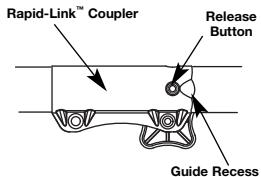

Fig. 13
WARNING: Avoid accidental starting. Make sure you are in the starting position when pulling the starter rope (Fig. 13). To avoid serious injury, the operator and unit must be in a stable position while starting. Make sure that any Add-On item is installed correctly and secure before starting the unit.
1. Turn the knob counterclockwise to loosen (Fig. 13).
2. Press and hold the release button (Fig. 13).
1. Turn knob counterclockwise to loosen (Fig. 13).
NOTE: Aligning the release button with the guide recess will help installation (Fig. 13).